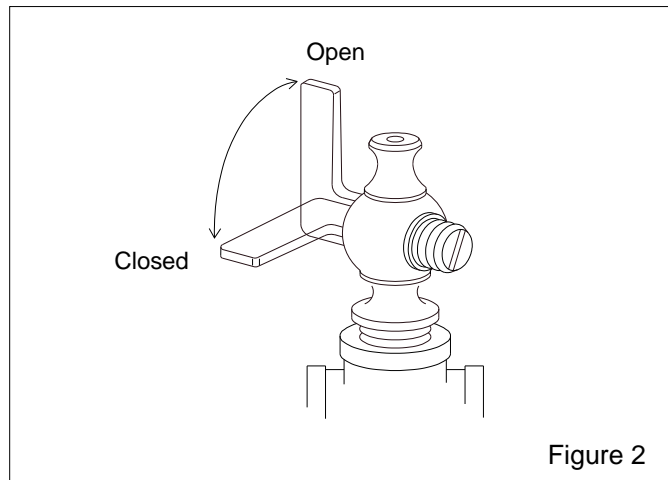

Figure 2
3.2.2 Make sure that the safety petcock located on the inlet valve is open. The petcock is open when the petcock lever is in-line with the petcock, as shown in Figure 2.